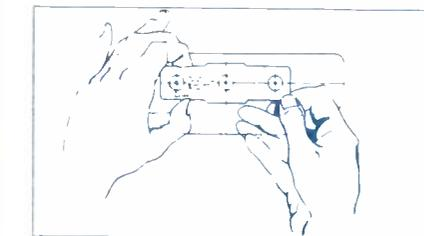

Figure 9. Template Positioning
STEP 5. Match center lines with scribed lines on radio opening trim plate. Carefully position template on radio opening trim plate. See Figure 9. If template is not properly centered, remove and reposition.